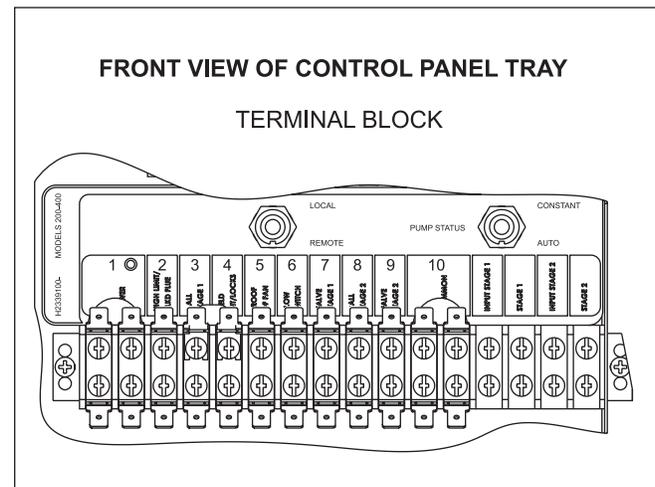

Figure 13. Terminal Block.
**Other Field Interlocks:** To install other field-wired switches (proving switches, flow switches, etc.), remove the jumper between the terminals labeled "3" and "4" (see Figure 13)